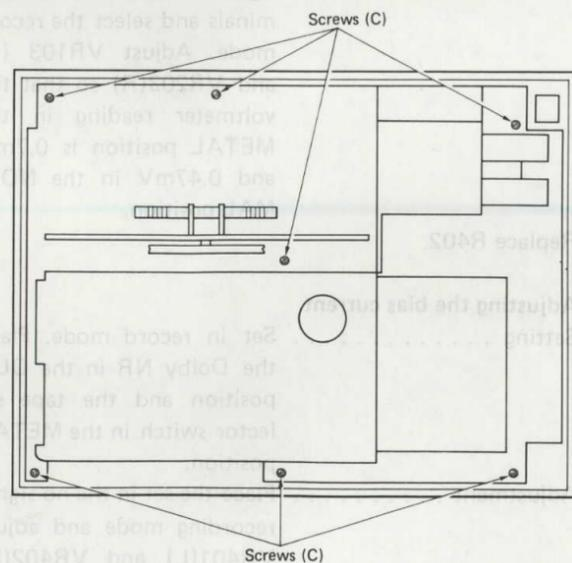

Fig. 2
- 1) Follow instructions 1) and 2) of item 1 above to remove the rear panel.
- 3) Removing the six screws (C) and remove the front panel. (please refer to Fig. 2)